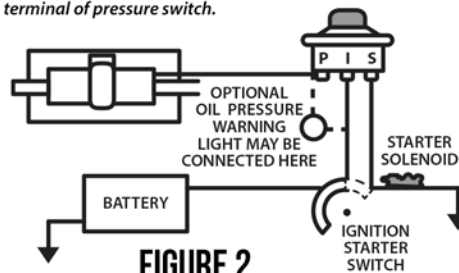

FIGURE 2
6. Install insulators provided onto terminals on both wires. Connect the ground wire to the negative (-) terminal on the pump. Connect the other end of the ground wire with the ring terminal to a suitable ground such as the mounting bracket screw. Connect the positive wire to the positive (+) terminal on the pump. Using the connector (wire nut) provided, attach a length of 16 gauge wire, long enough to run the power source or oil pressure switch. (See Fig. 2). A 3 amp in-line fuse should be used at the power connection. When routing the positive wire, be sure to anchor it securely at frequent intervals to prevent damage and protect it from sharp edges and moving parts.
Full battery voltage must be available to the pump when the ignition switch is in the **START** or **RUN** position. Do not connect to ignition coil or ballast terminals. The additional safety warnings of "low oil pressure" and "broken oil lines" may also be incorporated. As shown in Figure 2.